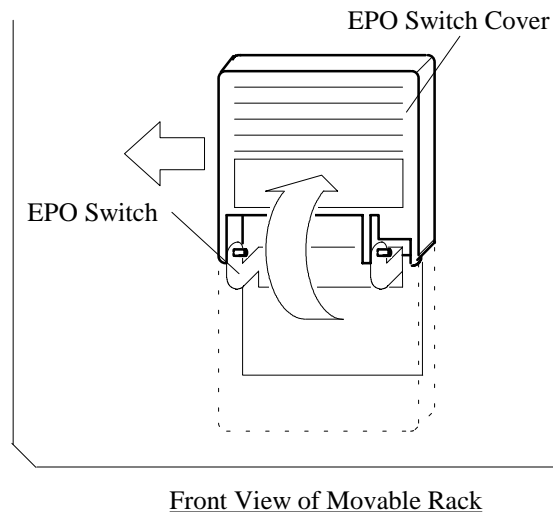

Fig. 4.6-2 Removal of EPO Switch Cover
- i. Attach the EPO Switch cover. Refer to Fig. 4.6-2.